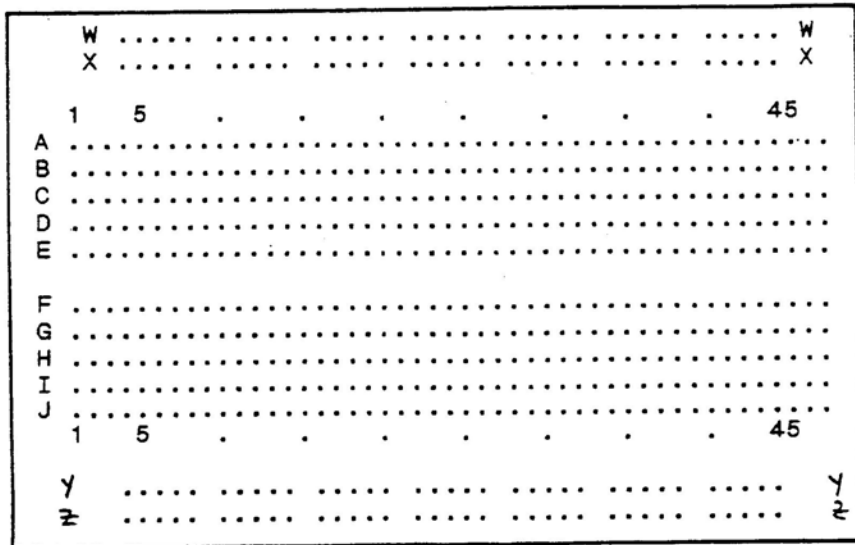

Fig. 8.1. Layout of Contacts on the Breadboard.
At any point in time ($t > 0$) after the battery is connected to the RC circuit, Refer to Fig. 8.1, an electric charge $q(t)$ will exist on the plates of the capacitor. If we apply Kirchhoff's Loop Rule to this circuit, the potential differences across the various elements at any point in time would add up to form the equation:
Fig. 8.1 is a schematic diagram of a series RC circuit with a “Mechanical” Square-Wave Voltage Source. When the Switch (S) is closed in the “Charge” position, a constant DC voltage (V) with an Emf (\mathcal{E}) is applied to the series RC combination and the capacitor charges through the resistor R. When the Switch (S) is switched to the “Discharge” position, the capacitor discharges through the resistor R.
• Fig. 8.1 Series RC Circuit with a “Mechanical” Square-Wave Voltage Source
The series RC circuit shown in Fig. 8.1 can be connected using the “Breadboard” shown in Fig. 8.2. The “Mechanical” Square-wave Voltage Source would be replaced with a Square-Wave Function Generator.